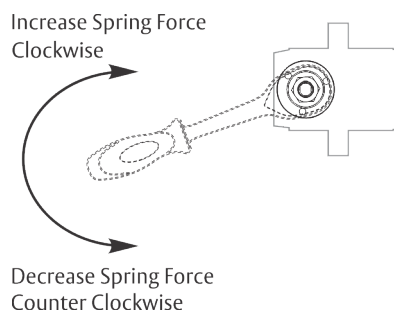

Figure 15
1. Using 1/2" socket wrench with 3/4" deep well socket, turn nut in end of closer body tube to desired force. (Figure 15)